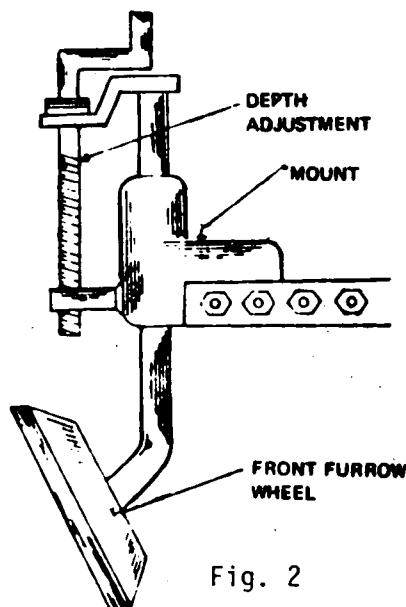

Fig. 2
- d) Actuate the depth adjustment cranks until the discs just touch the ground (Figs. 2 and 3).